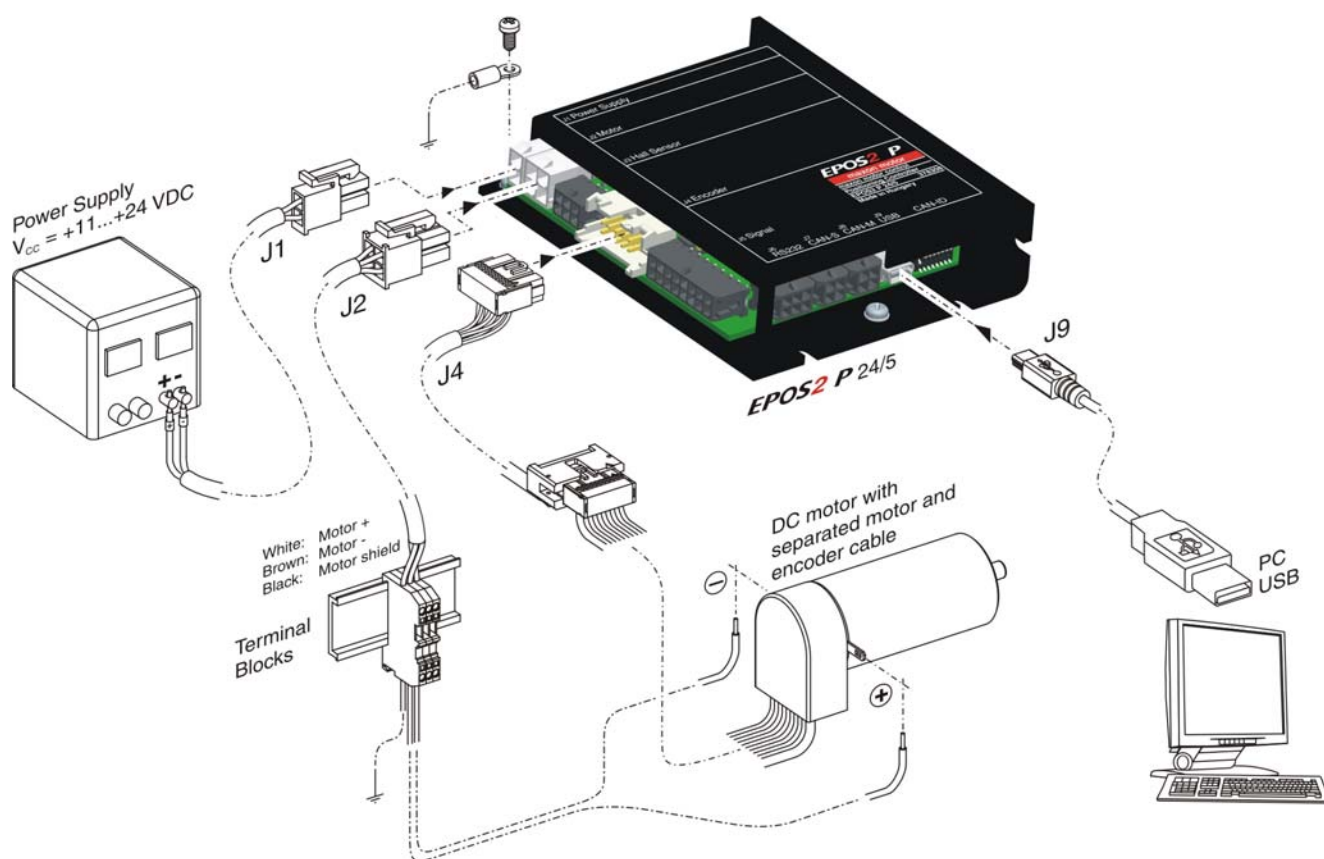

Figure 3-5 Minimum Wiring: maxon DC motor with separated Motor/Encoder Cable
- 2) Connect maxon cable assemblies (→ Table 3-5 and Figure 3-5).